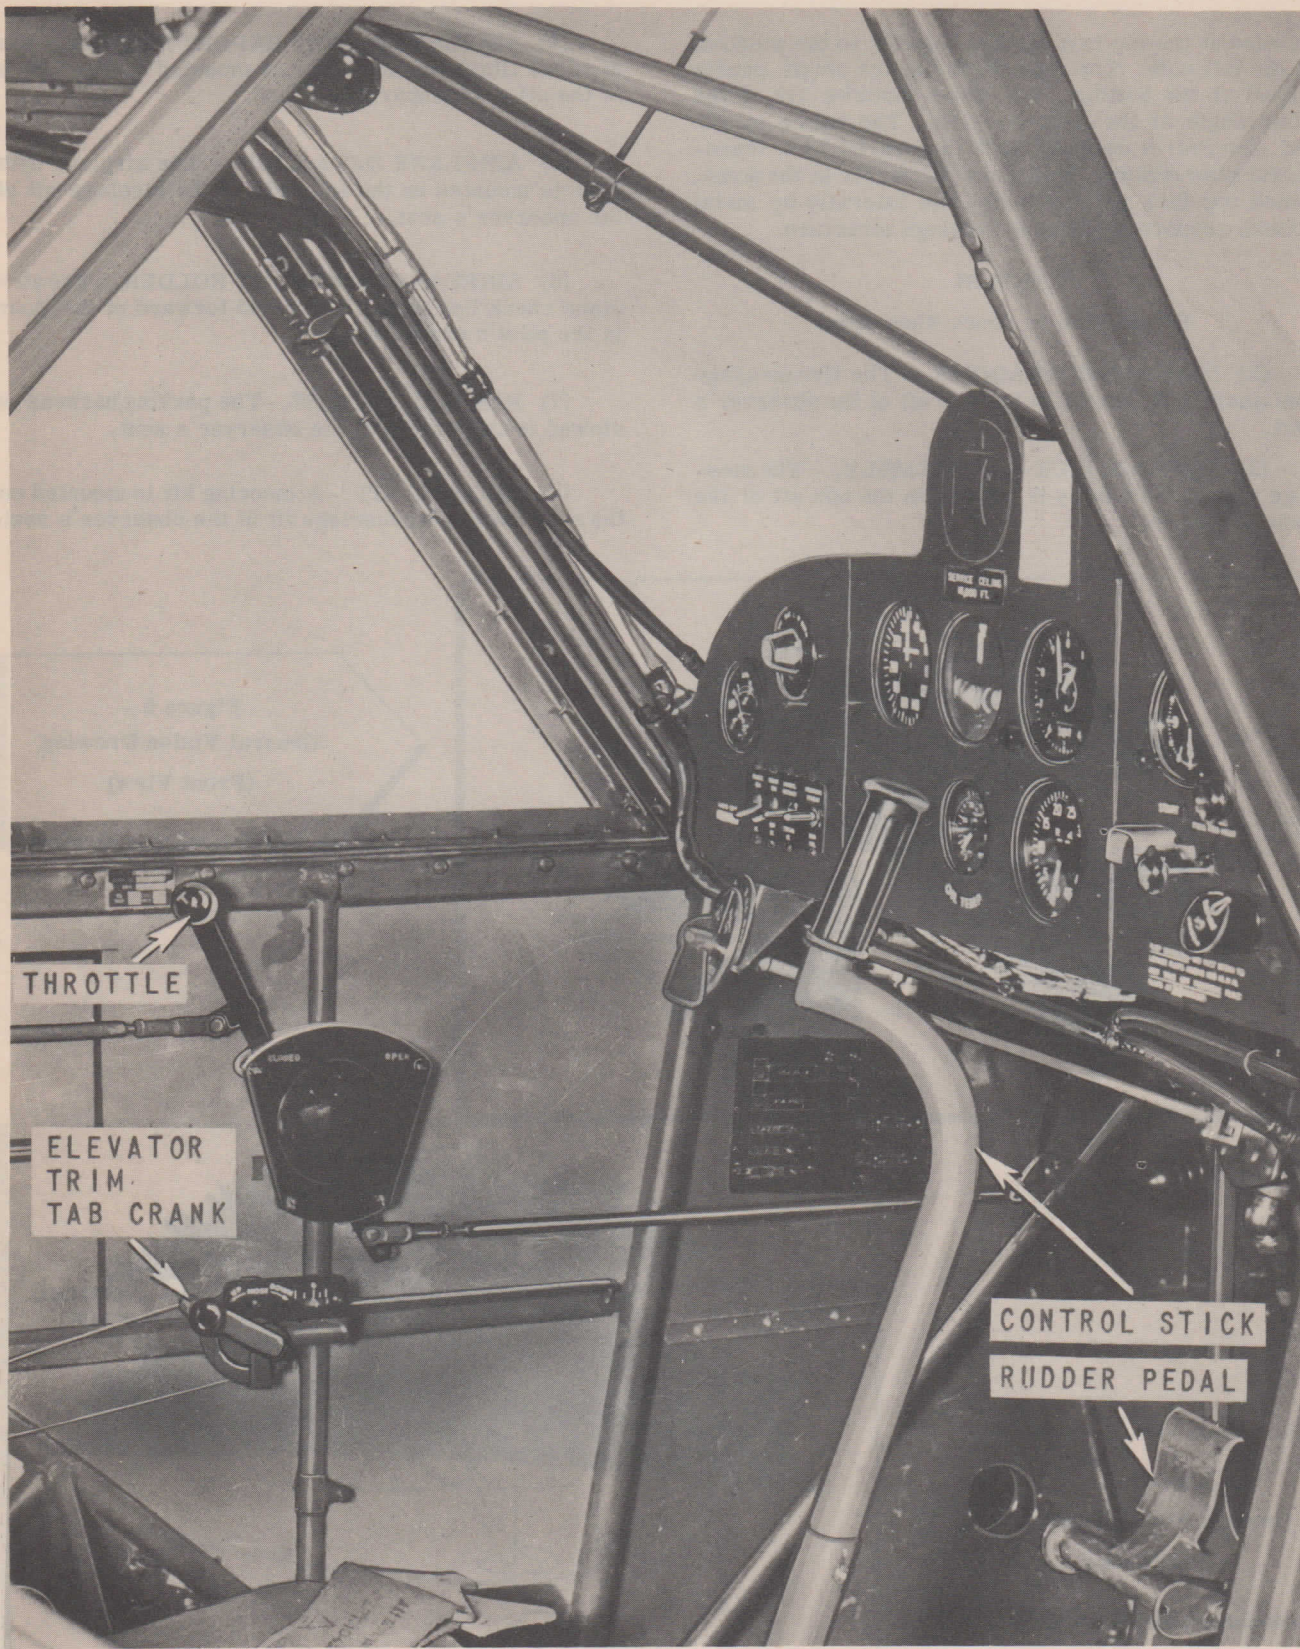

Figure 7 - Pilot's Cockpit Arrangement and Control
(9) **PILOT'S SEAT.** - The pilot's seat accommodates a seat-pack parachute and is adjustable forward and aft. A "Tee" handle at the right side actuates spring-loaded pins which lock the adjustment. (See figure 7.)